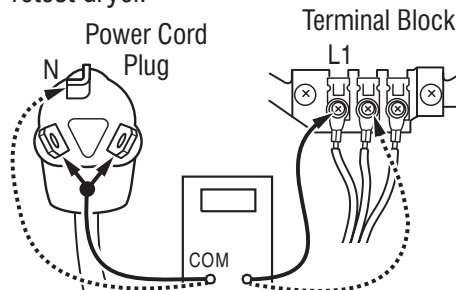

Figure 4a - Plug-to-terminal connections for electric dryer.
3. With an ohmmeter, check for continuity between the neutral (N) terminal of the plug and the center contact on the terminal block. See figure 4a.
4. In a similar way, check which terminal of the plug is connected to the left-most contact on the terminal block and make a note of it. This will be L1 (black wire) in the wiring diagram. See figure 4a.